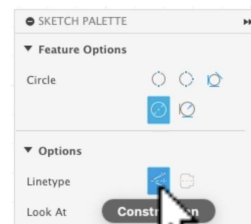

Figure 1.5
2. Press **C** to create a circle. Turn off Construction Line mode, then draw a circle at the desired dimple center (see Figure 1.5).